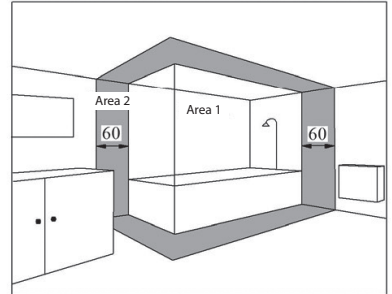

Fig. 4
5.5 The convector may be installed in rooms with high humidity - bathrooms, showers, pools (Fig. 4). It is prohibited to install the convector: